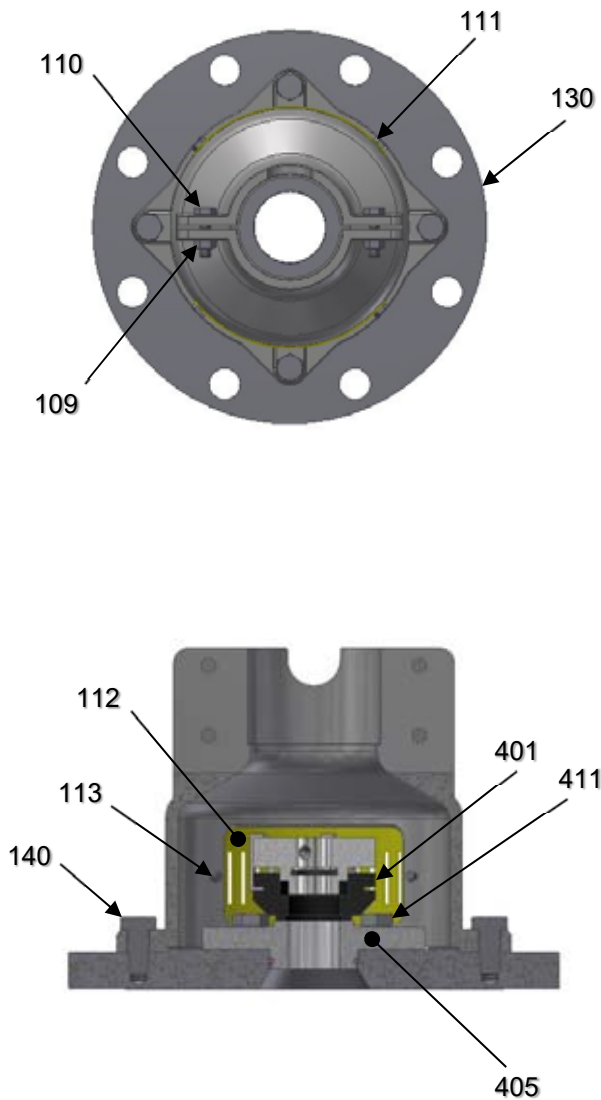

FIGURE 8
2.9 "S" Units – Closed Tank, Flange (ANSI / DIN) Mounted Mechanical Seal Module - The mixer housing module mounts in the bore of the Pedestal (111) and is secured by tightening the four hex head cap screws (110) and hex nuts (109). Tighten to 75 in. lbs. (8.5 N-m) maximum torque. Do not over tighten. Damage to equipment may result. The pedestal (111) bolts to the mounting flange (130) with four hex head cap screws (140). Tank contents are sealed off by the **LIGHTNIN** Mechanical Seal (401). Access to the **LIGHTNIN** Mechanical Seal (401) is achieved by loosening the eight captive hex head cap screws (113) then removing the two safety covers (112). Refer to Figure 8.